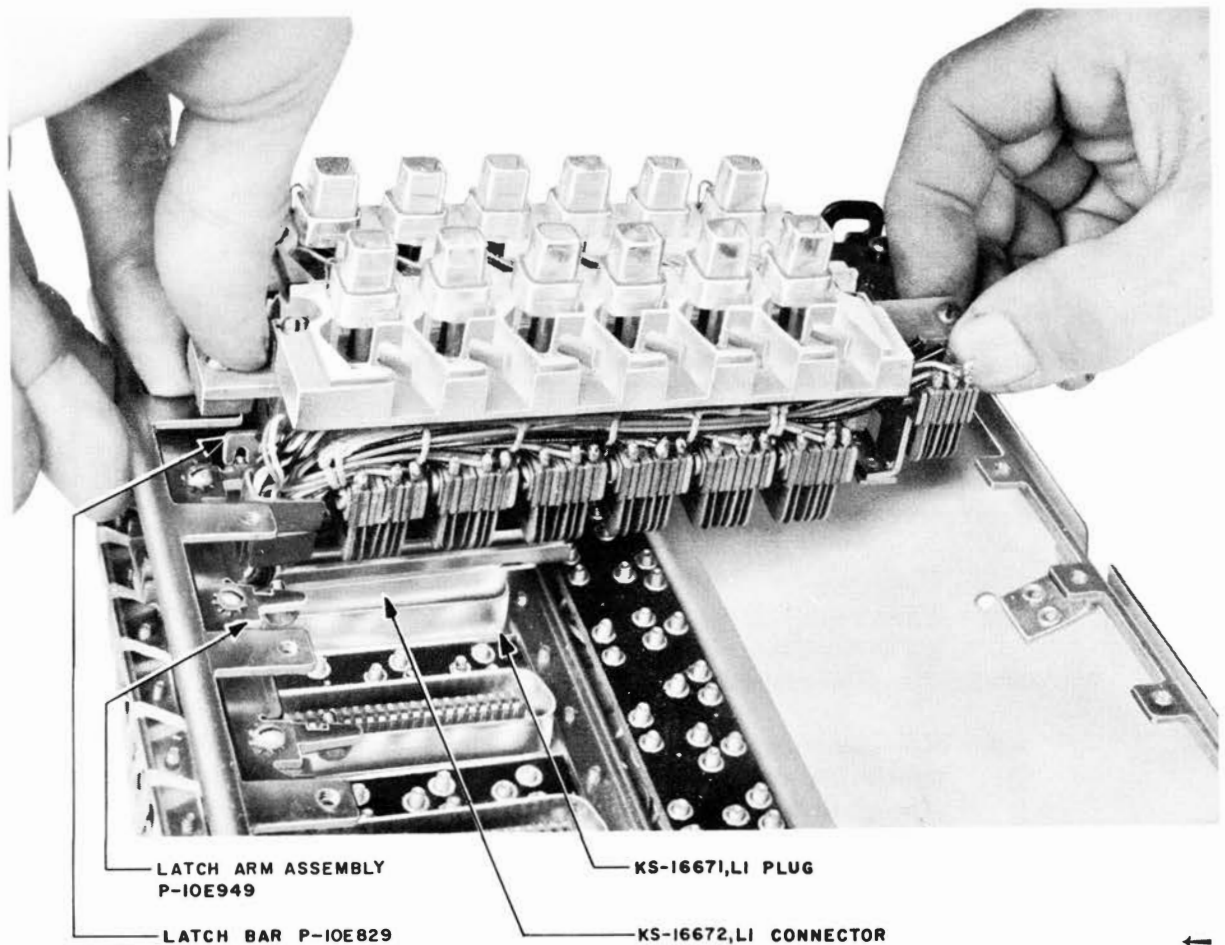

Fig. 11 — 601-Type Telephone Set Showing Replacement of Key
3. Grasp both ends of key and pull up to disengage connector from the plug (Fig. 11).
1. Hold key by both ends of frame (Fig. 11).